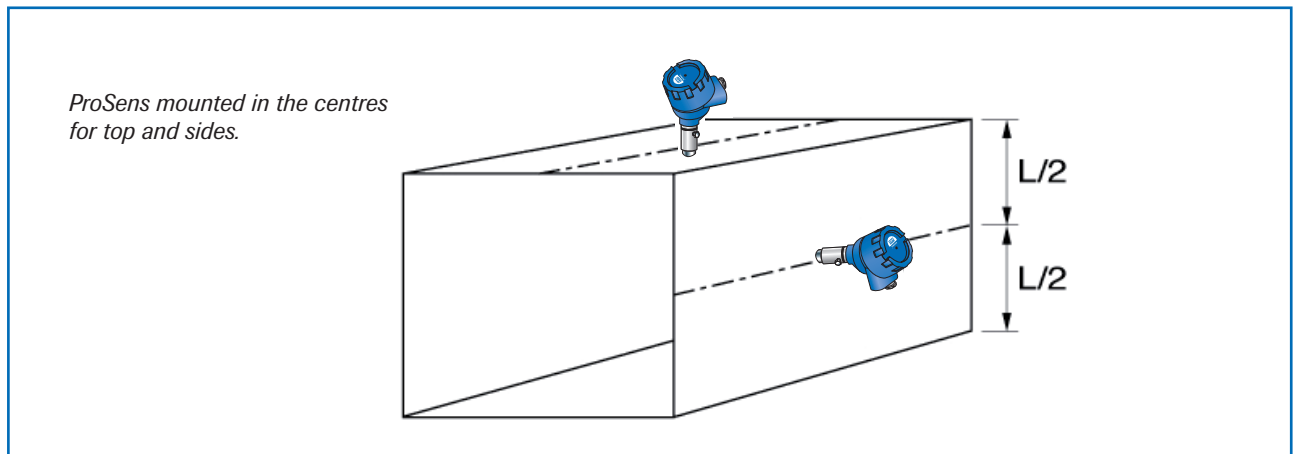

Fig. 3b: Rectangular ducts
3. For square cross-section ducts, the unit must be positioned in the middle of the top or in the middle of one of the sides. (See figure 3b)